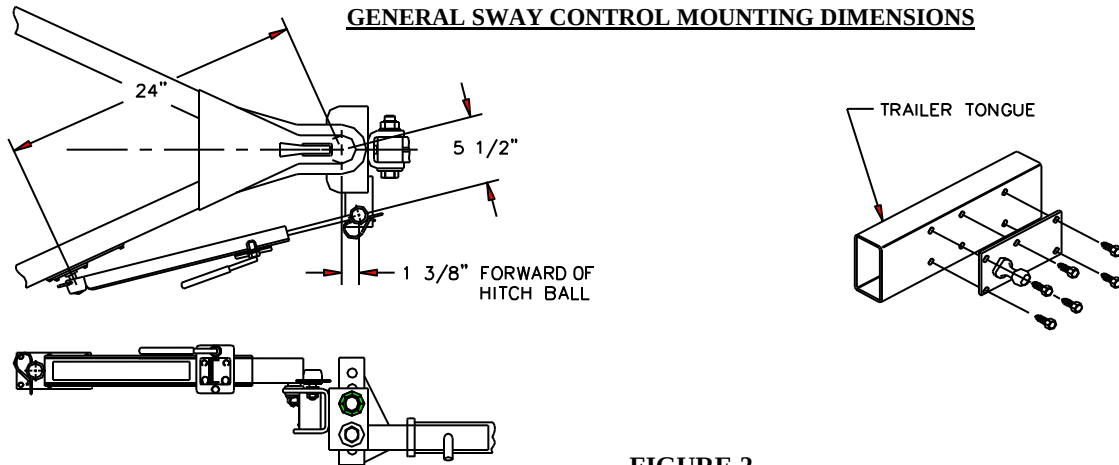

FIGURE 2.
- Mount sway control ball (1a) using nut (1b) and lock washer (1c) to hitch as shown in Figure 2 and torque to 100 lb.-ft. If necessary notch and weld ball mounting bar (4) (sold separately) into position shown.
- Measure and mark a point on the trailer tongue 24" from the center of the hitch ball as shown in Figure 2.
- Align the center of the ball of the ball/plate assembly (3) with the mark on the trailer tongue and center punch four hole locations. Drill four holes using an 11/32 (.343) drill bit for 1/8" (.125) or thicker trailer tongue material, or a 9/32" (.281) drill bit for thinner material.
- Position the ball/plate assembly (3) over the drilled holes and drive four of the self tapping screws (2a) through the plate and into the trailer tongue. Drill the two remaining holes and install the screws.